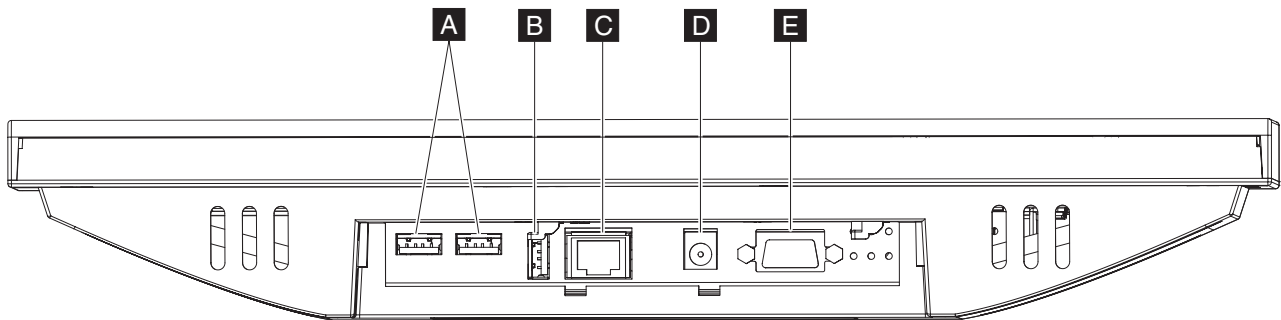
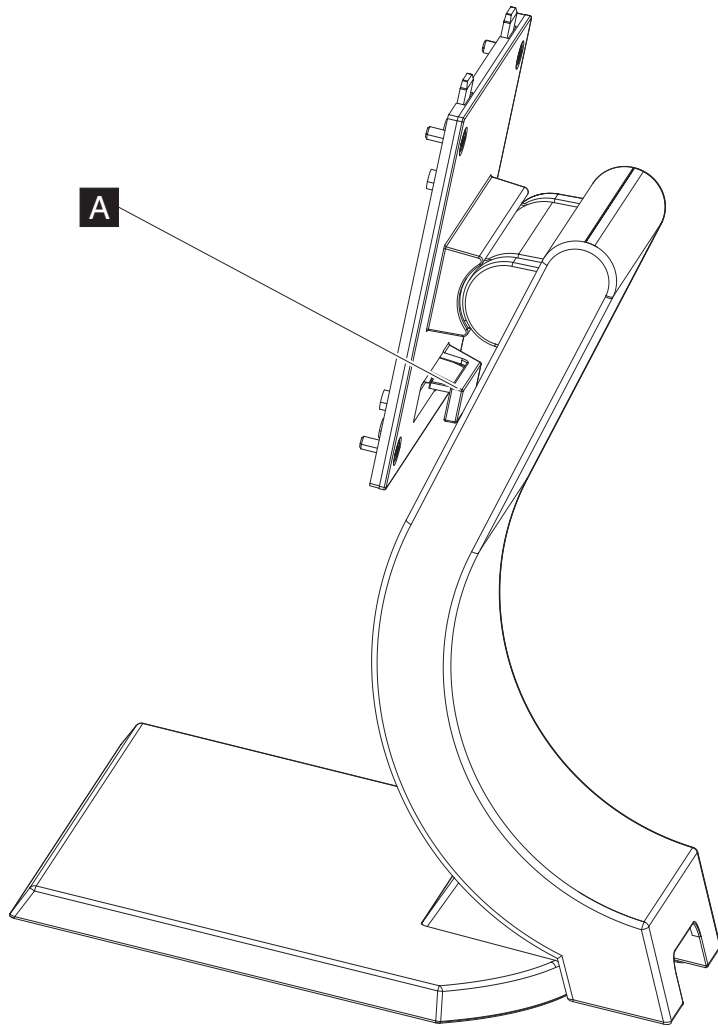

Figure 8. Input/output ports
Figure 13. Route cables through the hook
- When routing the cables, route the cables through the hook **A** on Figure 13 on page 17 and then connect them into the proper ports located in the back of the display monitor. Refer to Figure 8 on page 11 for the available ports.